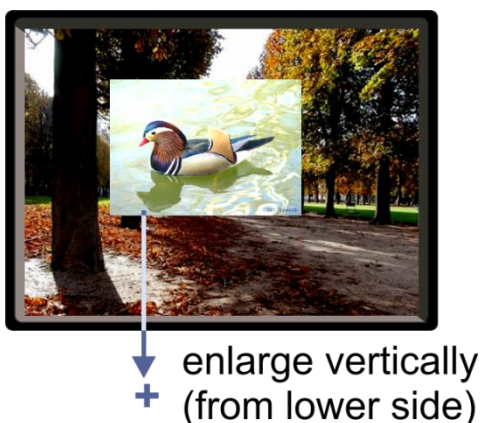

Figure 14: Increasing the Height
4. Select V Height (an OSD slide bar appears) and press + to increase the height, or – to decrease the height, see Figure 14.